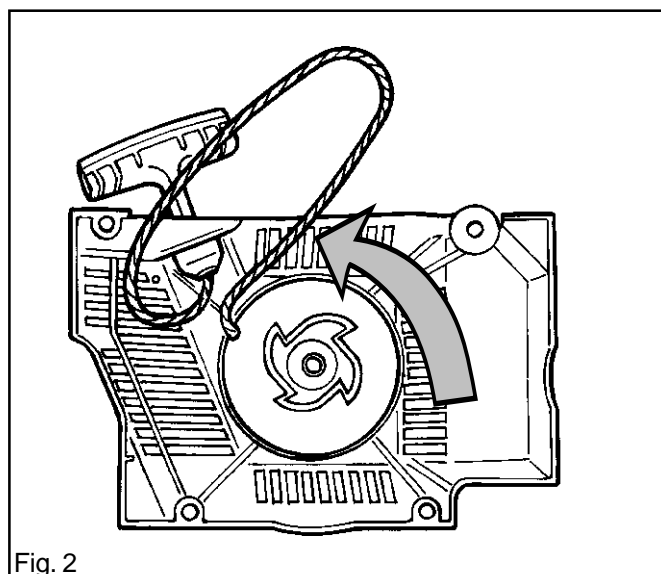

Fig. 2
2. Pull out the handle 20-30 cm and take out the cord from the slot in the starter pulley. See fig. 2.